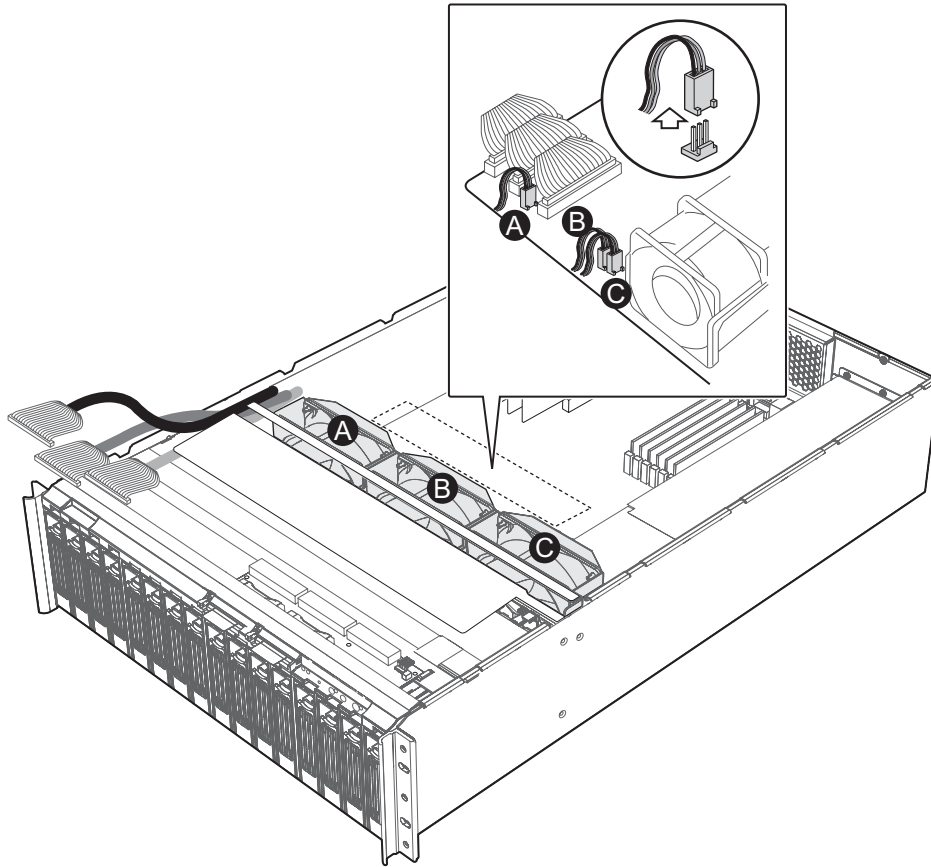

Figure 32. Removing Fan Connectors from the Baseboard
- A. Remove the wire connector for Fan 5 from the baseboard. See Figure 32.
- B. Remove the wire connector for Fan 4 from the baseboard. See Figure 32.
- C. Remove the wire connector for Fan 3 from the baseboard. See Figure 32.